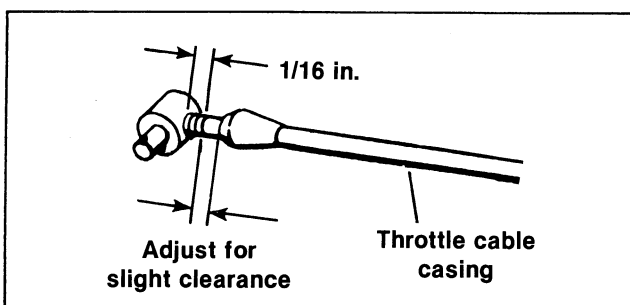

Figure 6-4. Throttle Closing Adjustment
- Thread the swivel block (3) back onto the cable (6) so there is only 1/16 in. of thread showing at the casing end. See Figure 6-4. Temporarily re-install the swivel block to the accelerator pedal bracket.
- See Figure 6-4. With the accelerator pedal fully depressed, the threads on the cable end must not enter the seal on the end of the cable casing.